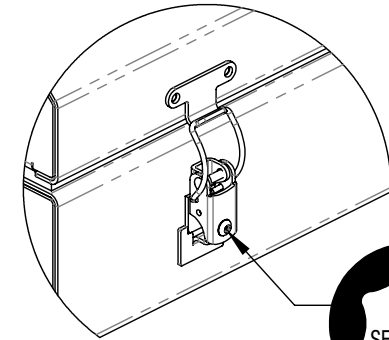

FIG 6
9. Firmly press down on lid and re-latch housing. **FIG 6.**
10. Fasten the Security Screws in place using a T10 SECURITY torx bit. **FIG 6.**